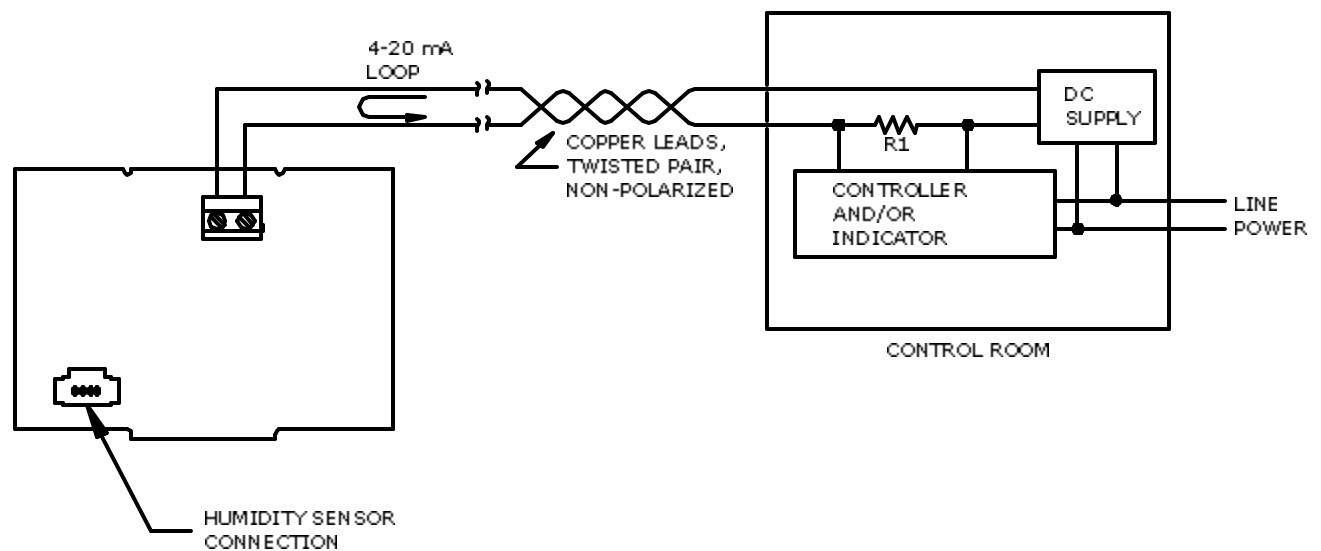

Figure 2
3. Remove transmitter cover and connect power wires to the transmitter by 2 screw terminals located near the edge of the circuit board (Figure 2). Power supply must not exceed 35 VDC.